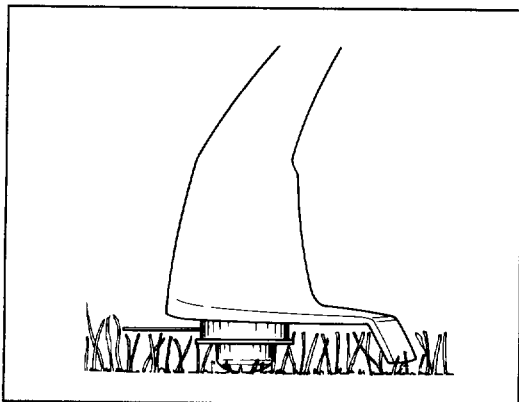

Figure 15
9. Never drag the trimmer spool cap on the ground while trimming (Fig. 15). This causes motor overload and spool cap wear.